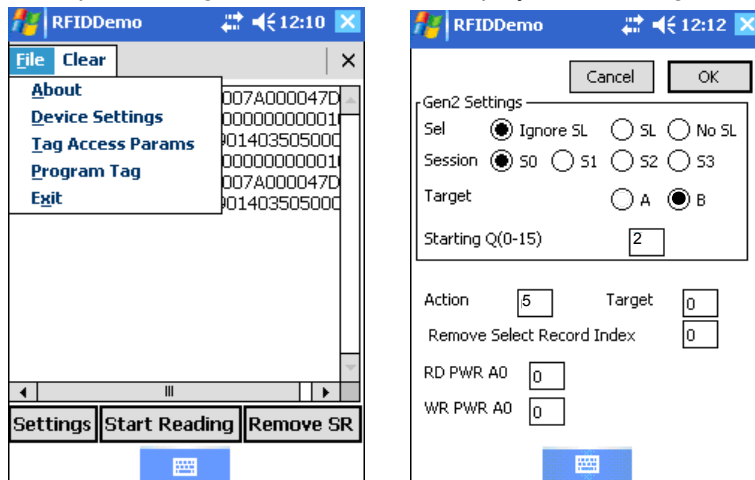

Figure 4-9 Tag Access Parameter Settings Dialog
2. Set the *Action* by entering a value between 0 (zero) and 7 for *Action* on the same page. In this example (Figure 4-9), the *Action* value is 5. This value can be used when using multiple filters. Refer to the Gen 2 protocol document for details about this field.
3. Set the *Target* by entering a value between 0 (zero) and 4, inclusive. In this example (Figure 4-9), the *Target* value is 0. This value depends on the desired Gen-2 functionality. Refer to the Gen 2 protocol document for details about this field.